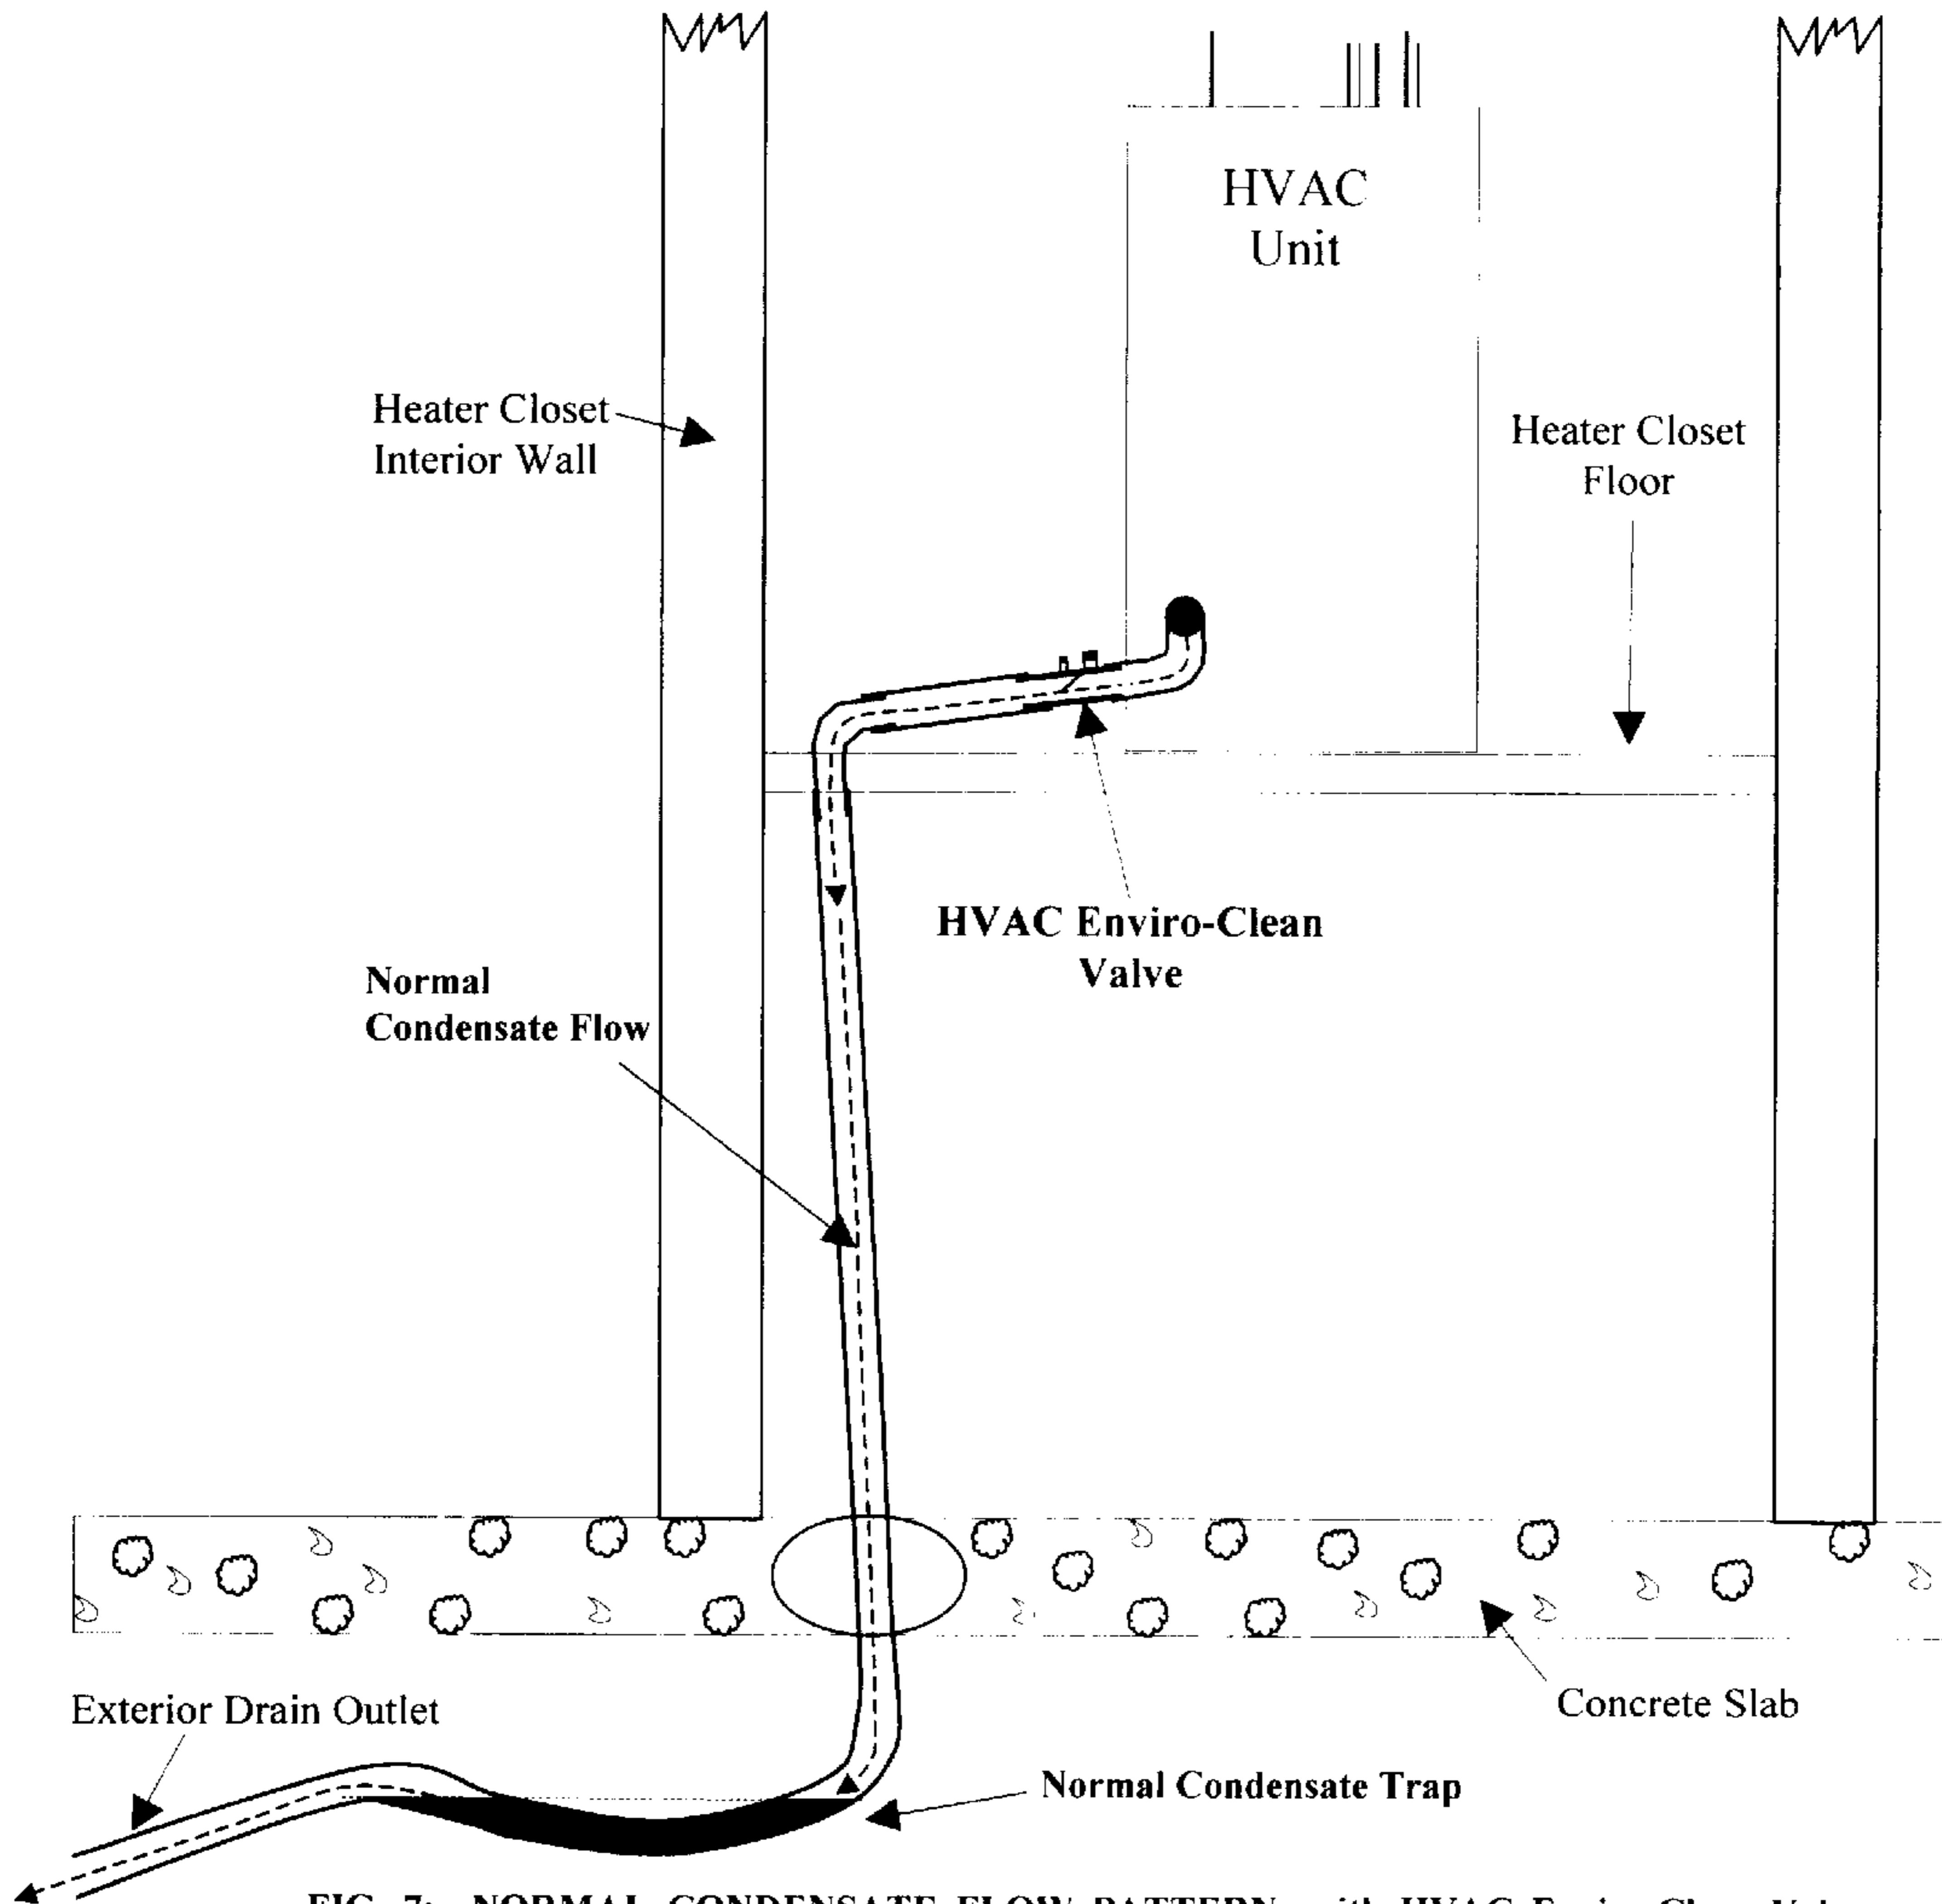

FIG. 7: NORMAL CONDENSATE FLOW PATTERN: with HVAC Enviro-Clean Valve installed.
7. FIG. 7: Normal HVAC Condensate Flow Pattern
The HVAC Enviro-Clean Valve is designed to be installed in-line (See FIG. 7) and allow for easy access by the consumer in a new or existing HVAC condensate drain line to prevent blocking the drain line and minimize the potential for microbial and bacterial growth and a reduction in IAQ pollution. There are a number of potential breeding grounds for bacteria and microbial growth within a HVAC system. Routine maintenance by the HVAC user by adding common household bleach to the drain line through an opening in the valve body will limit the growth of bacteria and microbial matter in the drain line and keep it freely flowing. A second entry point on the valve permits the introduction of compressed air into the drain line (without cutting the line) should the line become clogged, to expel the blockage from the line.